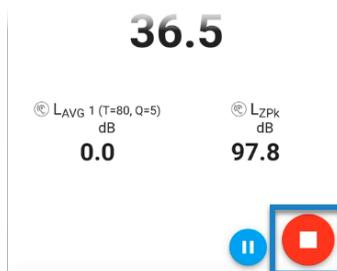

Figure 3-12. Recording Stop Button
8. To stop the recording, touch the stop button (see Figure 3-12). You are prompted to either stop the recording, or go back.